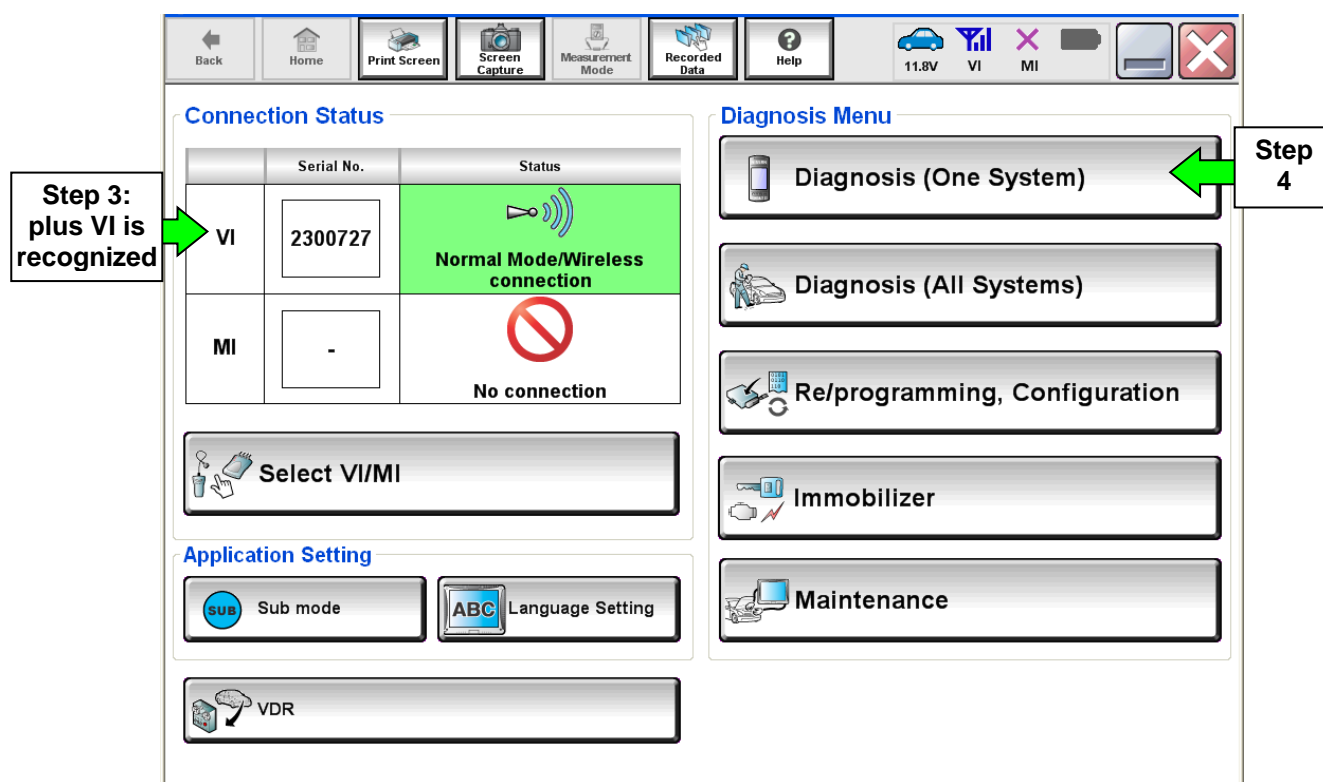

Figure 1A
1. Return to the C-III- plus Home screen (see Figure 1A).